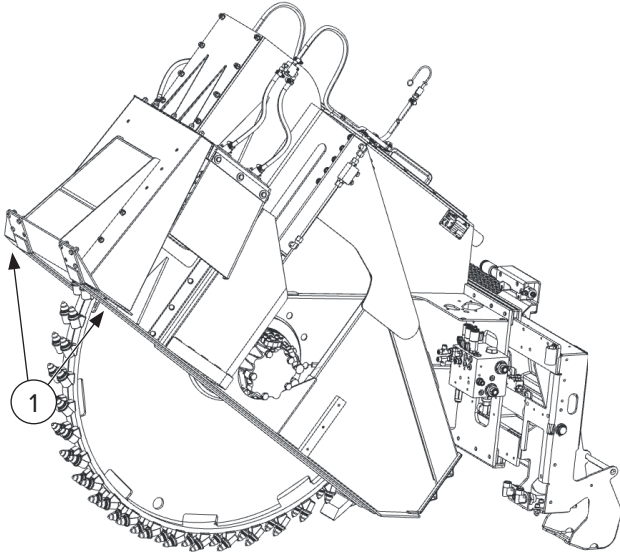

Figure 21
Visually inspect the two (2) skid shoes [Figure 21, Item 1] to check for signs of wear.
Position the attachment as shown in Figure 21 to perform this check.